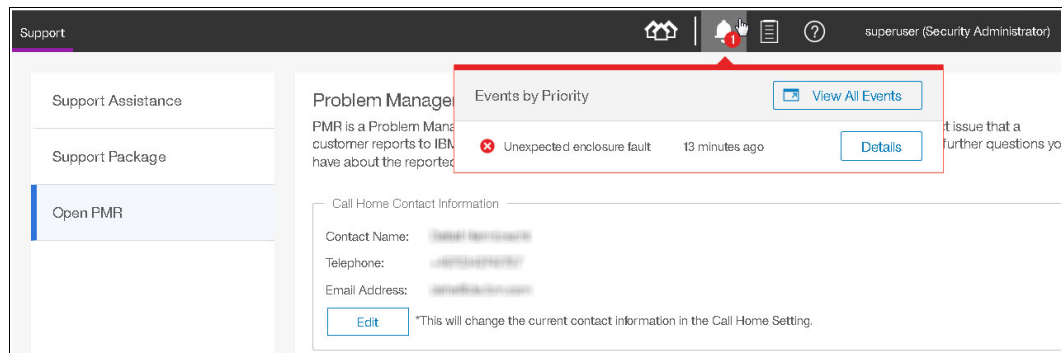

Figure 7-110 Unexpected enclosure fault event created when manually submitting a PMR
4. A manually submitted PMR creates an event that is titled Unexpected enclosure fault. As shown in Figure 7-110, you can click **Details**, change to the event view by clicking **View All Events** and see the event details, or mark the event as fixed.